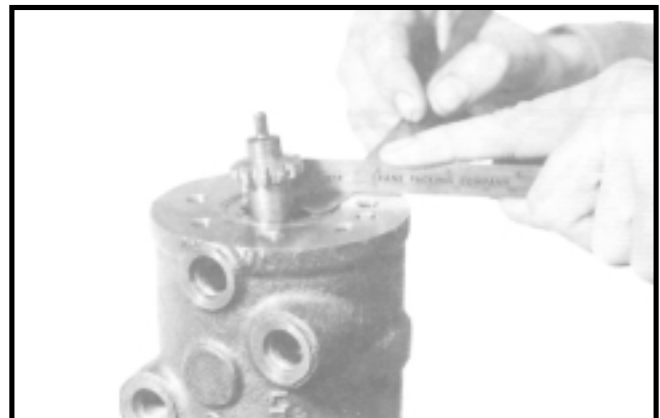

Figure HGA-21
**NOTE: If any of the input shaft (16), housing and spool, torsion bar or upper cover (7) have been replaced, the following procedure for checking and shim adjustment must be used.**
- 16b. Re-assemble as in "a" above using the required new parts. After torquing the four screws (6) revolve unit in vise so that the input shaft is pointing downward. In order to determine that the unit is shimmed correctly, the drive link (30) must be in its proper position. To do this, grasp the input shaft (16), pull downward, and prevent rotation. Engage drive link splines in spool (22) and rotate to position spool essentially flush with end of housing (25). Remove drive link and orient drive link slot to engage torsion bar needle roller (21) and insert drive link. Observe relationship of spool end to body. The valve spool must protrude  $.020 \pm .0025$  from the adjacent counterbore surface. If within spec. no additional shimming required. If not within  $.0025$ , add or remove shims (9) until this requirement is satisfied repeating assembling steps as outlined in "a" above. (See Figure HGA-21).